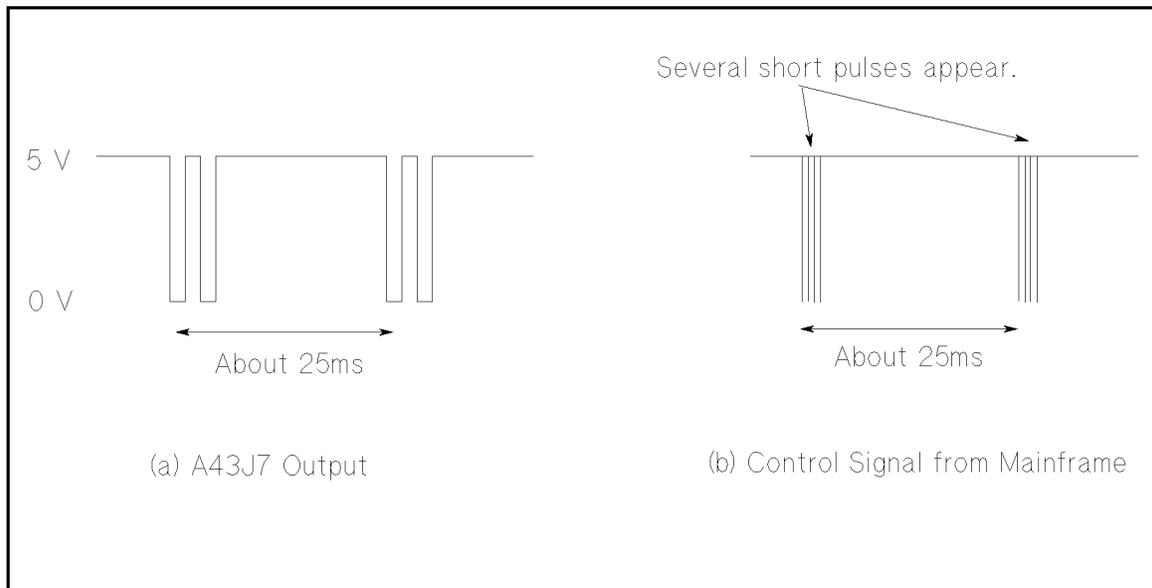

Figure 9-3. Test Head Control Signal Check
5. Check the output signal from A43J7 (the test head control signal for the V/I Multiplexer block) with an oscilloscope. See (a) of Figure 9-3.
8. Check the test head control signal from the mainframe by probing the coaxial cable center conductor. See (b) of Figure 9-3.